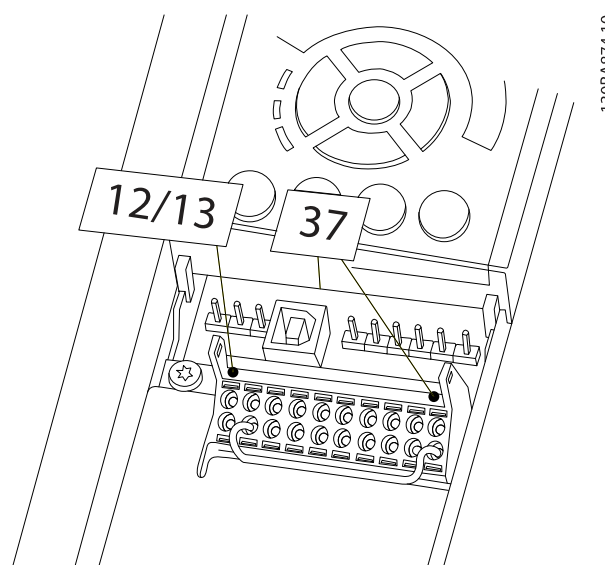

Figure 2.20 Jumper Between Terminal 12/13 (24 V) and 37
1. Remove the jumper wire between control terminals 37 and 12 or 13. Cutting or breaking the jumper is not sufficient to avoid short-circuiting. (See jumper on *Figure 2.20*.)
If the status line at the bottom of the LCP reads **AUTO REMOTE COASTING** or **Alarm 60 External Interlock** is displayed, this indicates that the unit is ready to operate but is missing an input signal on terminal 27. See *Figure 2.20* for details.